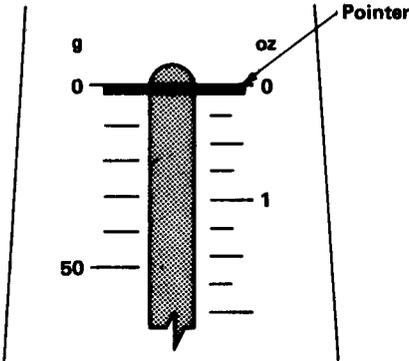

Figure 5-1
2. Hold the scale by the ring at the top and let it hang freely. Check to see if the upper surface of the pointer lines up exactly with the 0 line (Fig. 5-1). If it doesn't, ask your teacher to adjust it for you.